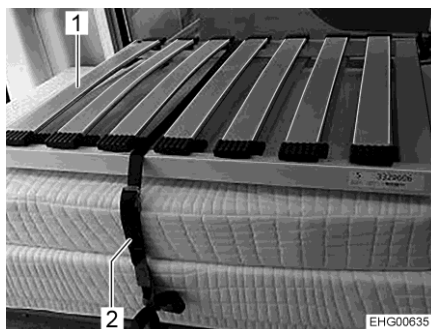

Fig. 31 Rear bed (transport position)
- Release the retaining belt (Fig. 31,2).
- Place the bed bases (Fig. 31,1) one behind the other above the central aisle (on the strips on the bottom cupboard).
- Stack the cushions and bed bases on the left-hand bottom cupboard as shown in Fig. 31.
- Secure the cushions and bed bases with the retaining belt (Fig. 31,2). In order to do this, pull the retaining belt through the eyelets provided and loop it around the cushions and bed bases.